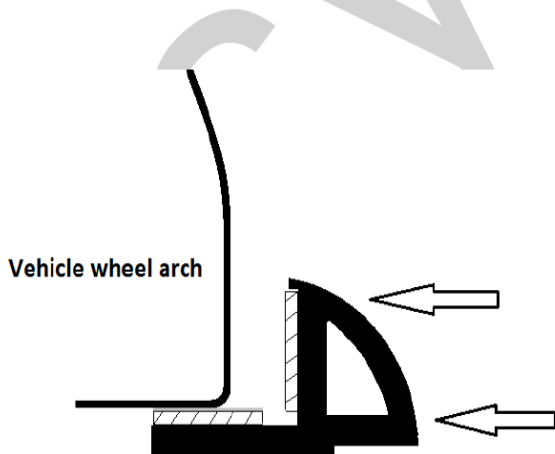

FIG 1
3.4 Begin by keeping a small gap of around 10mm between the exposed tape face and vehicle wheel arch, using the lower bonding face as an aid to positioning (FIG 1) carefully and lightly press the extension to the wheel arch, then working around every 6 inches or so to aid repositioning if required.